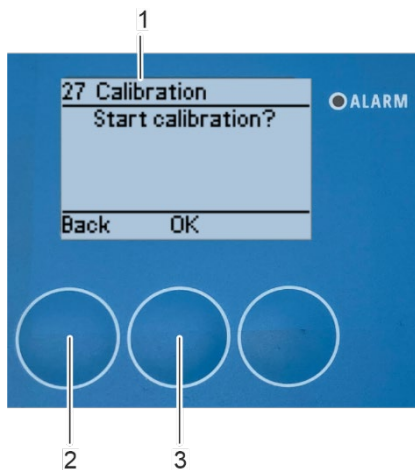

Fig. 139: Perform calibration
⇒ The “27 Calibration” submenu appears on the display (Fig. 139/1).
3. Confirm calibration start with [*OK*] (Fig. 139/3).
To not carry out the calibration and exit the submenu, press [*Back*] (Fig. 139/2).